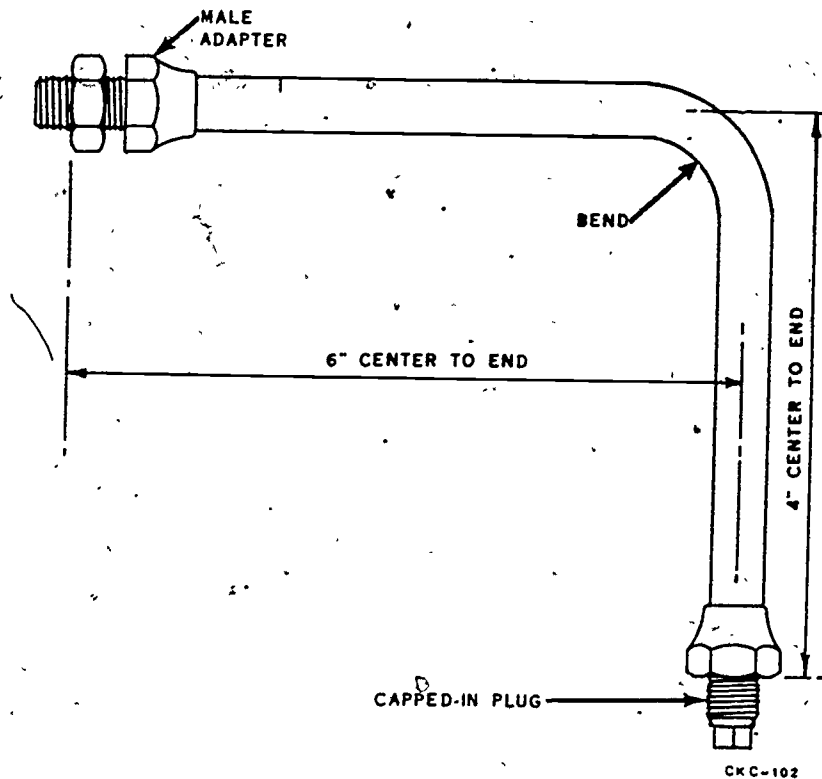

Figure 7. Tubing Assembly
1. Follow the steps below in fabricating the tubing assembly shown in figure 7. Observe safety precautions during the assembly procedure.
a. Study figure 7 and with the aid of your instructor, secure the materials and tools you will need to fabricate the assembly.
i. Install the plug and male adapter (see figure 7).